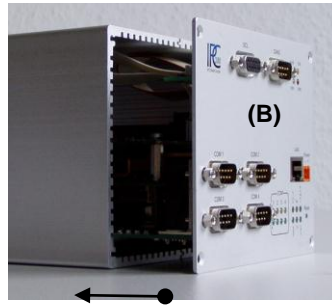

Fig. 2.5.8
3. Push the PCB-unit back into the housing and tighten the 4 screws on the front panel (Fig. 2.5.8 and 2.5.9).